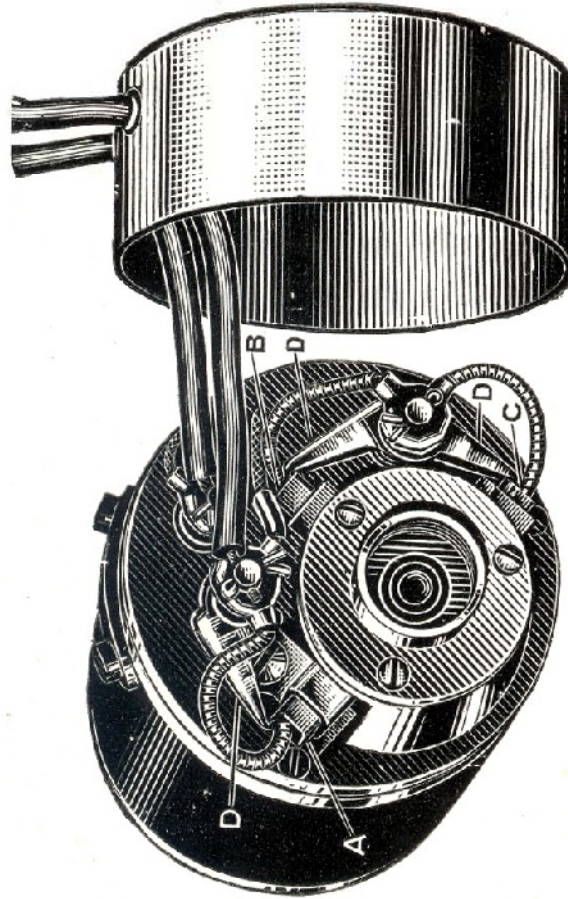

Fig. 2
1. All the brushes (A, B, C, Fig. 2) should slide quite freely in their holders.
3. Worn brushes can be easily replaced by withdrawing the split pin at the end of the spring terminal, when the eyelet on the end of the flexible brush lead can be removed. The brush tension can be removed. The brush tension spring (D, Fig. 2) should then be held back out of the way when the brush can be withdrawn from its holder.